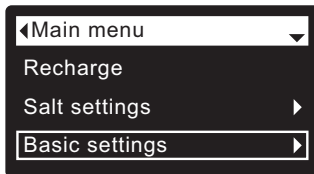

FIG. 53
1. From any of the rolling status screens, press the SELECT (O) button to display the **Main menu**.
2. Press the DOWN (▼) button to scroll through the menu options until **Basic settings** is highlighted (See Figure 53).